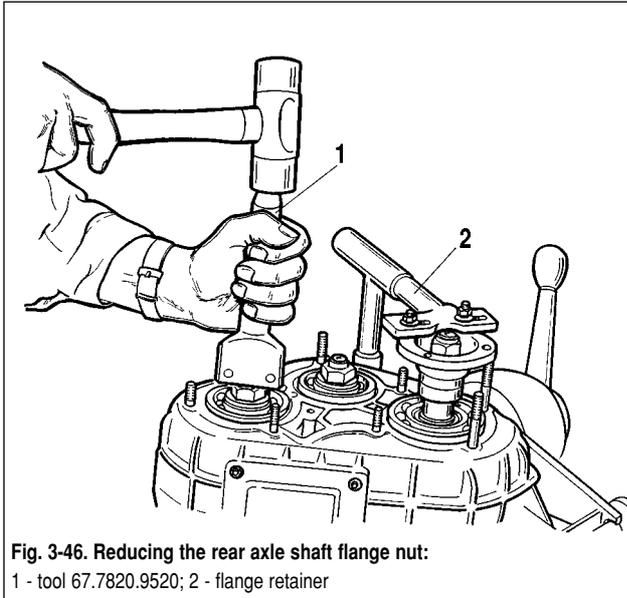

Fig. 3-46. Reducing the rear axle shaft flange nut:
- use tool 67.7820.9520 to reduce the transfer box shaft nuts (see fig. 3-46).